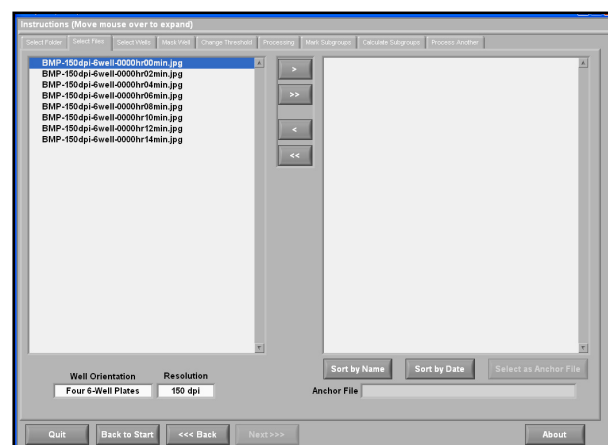

Figure 19. Selecting the image files to analyze.
1. The images from the **IMAGE FOLDER** appear in the left window on the **SELECT FILES** screen (Fig. 19). The images to process may be selected one at a time or grouped using the Control or Shift keys. They are moved to the right window using the (>) button. Use the (>>) to move all the images to the right window. The right window signifies the images that are going to be processed. *The images are processed in the same order as they appear in the window.* To deselect an image from being processed, select an image in the right window or group them using the Control or Shift keys and press the (<) button. The (<<) moves all the images back to the left window to remove them from processing.